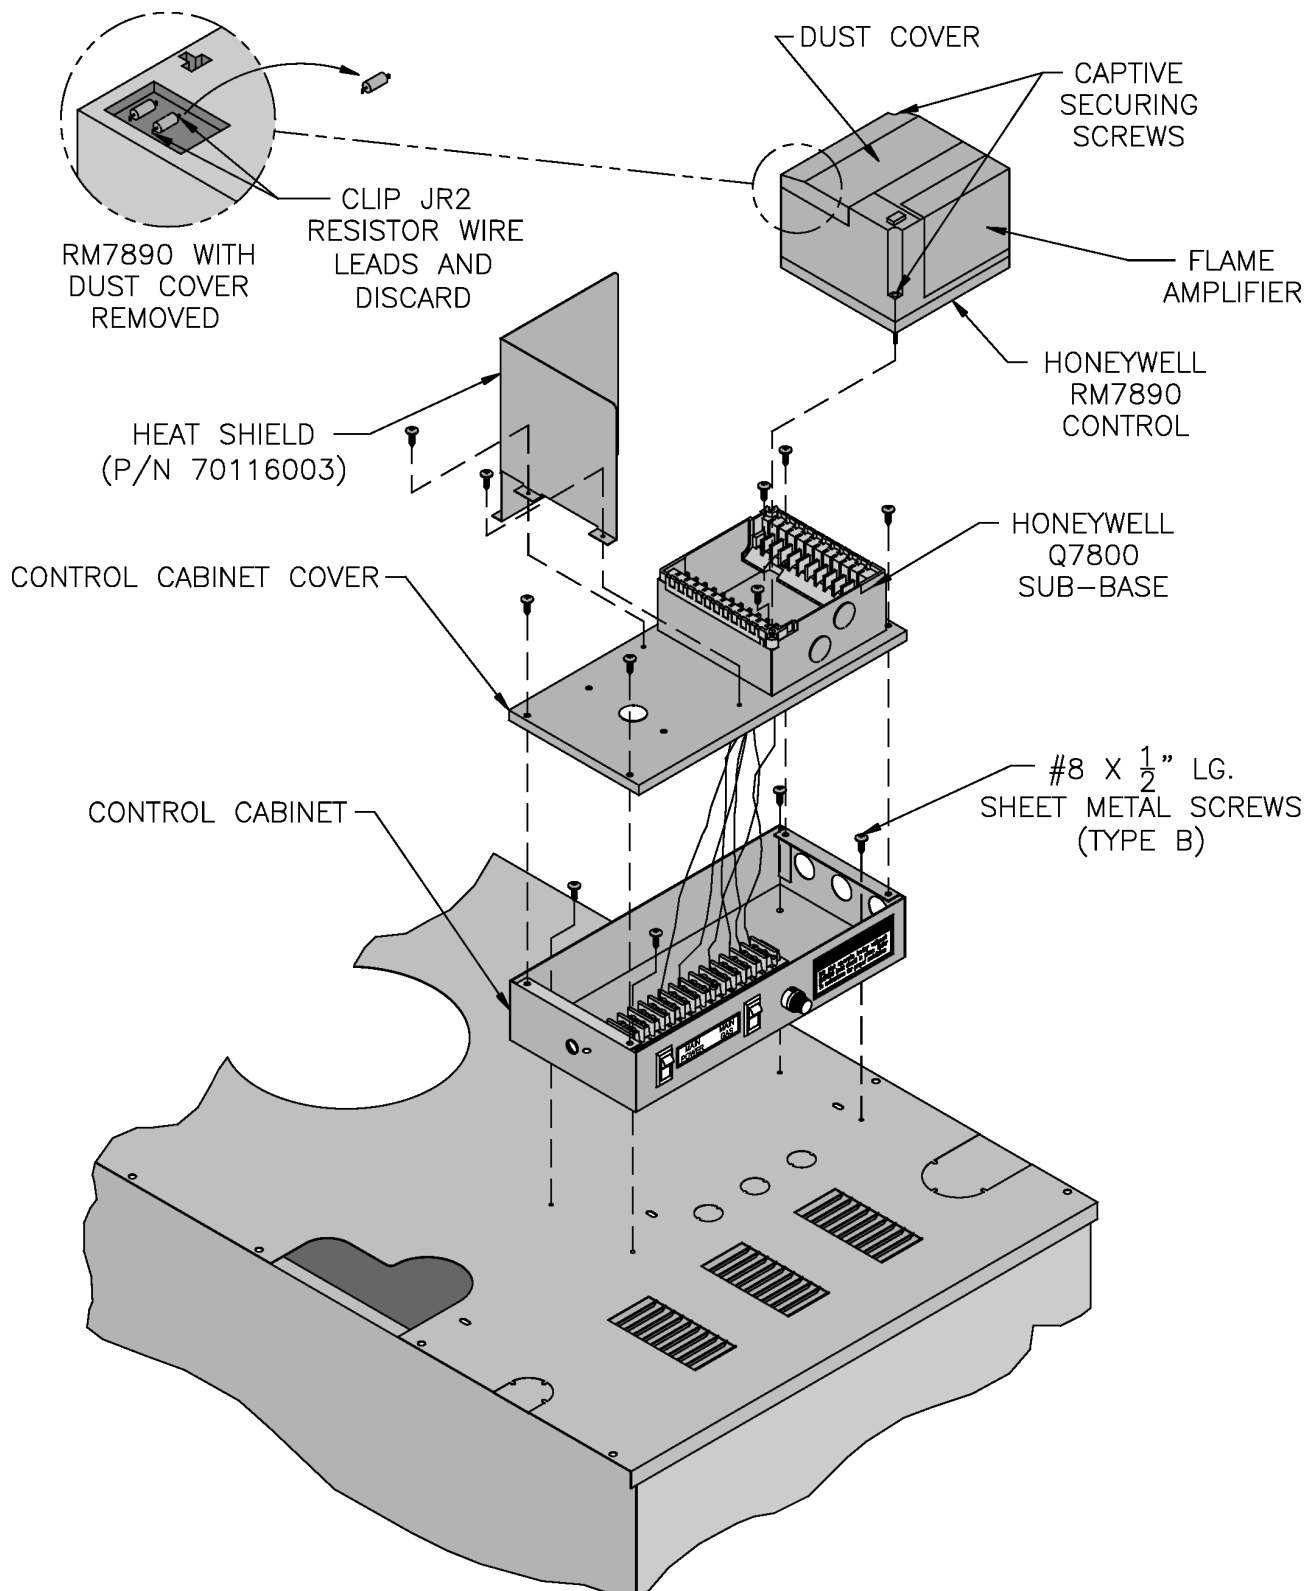

Figure 9: EP/OP Control Installation
**S. EP and OP System: See Figure 9.**